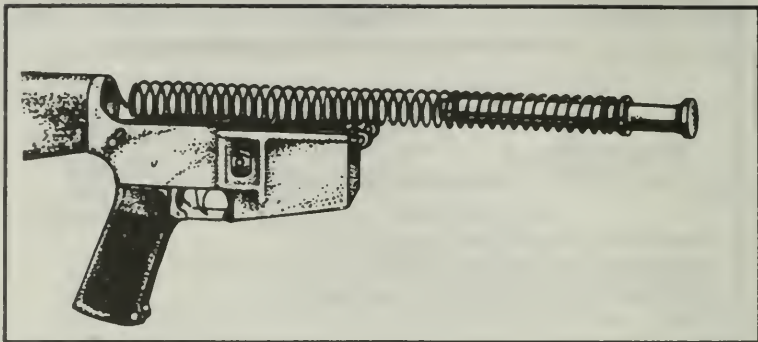

Figure 71. Replacing the spring and buffer.
a. Insert the spring and buffer (Figure 71).